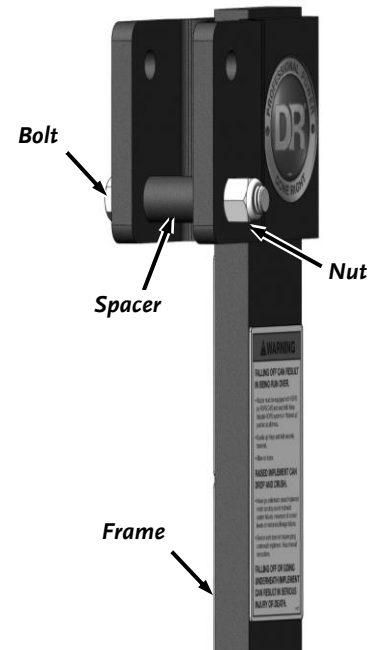

Figure 5
3. Install the M20 X 100 Bolt, Spacer and M20 Locknut in the second hole from the top in the Frame (**Figure 5**). Tighten using two 30mm Wrenches